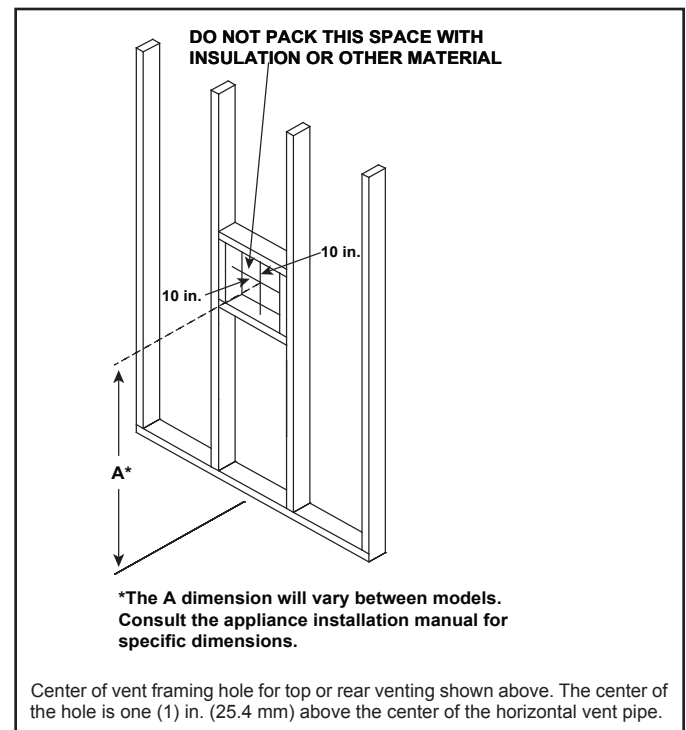

Figure 1. Wall Penetration
1. Complete framing for penetration of wall for horizontal termination. See Figure 1.